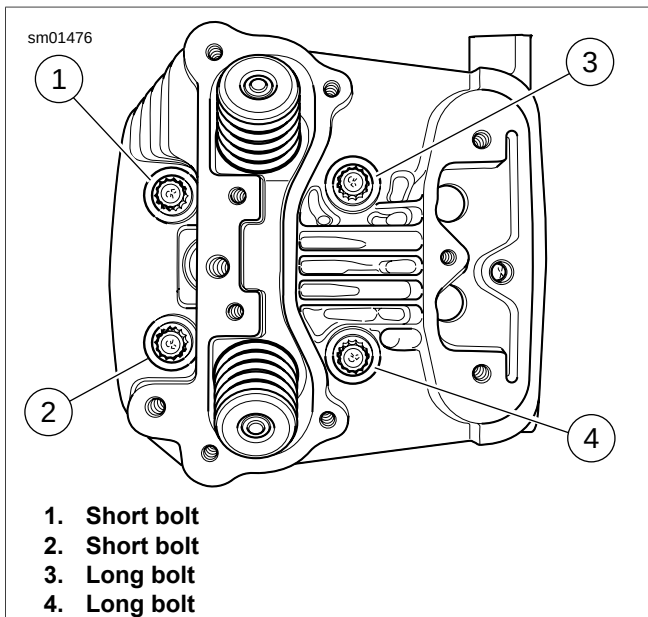
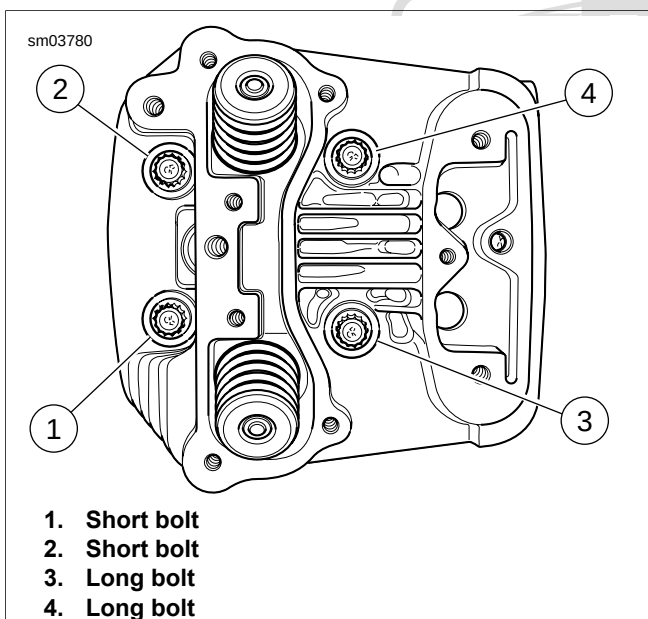

Figure 3-43. Front Cylinder Headbolt Torque Sequence
Figure 3-44. Rear Cylinder Headbolt Torque Sequence
See Figure 3-43 or Figure 3-44. Follow sequence of incremental removal as described below to prevent component damage.
2. See Figure 3-43 and Figure 3-44. Loosen each head bolt 1/8-turn following the sequence shown.